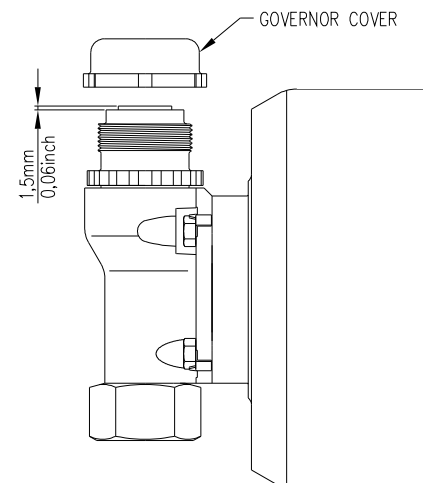

Figure 6-1 Overspeed governor test
- a) Use a special wrench to remove the governor cover (figure 6-1).
The spring support must extend from governor body approx. 1,5 mm (0.06 inch) as displayed in figure 6-1. Otherwise push the spring support and release several times.